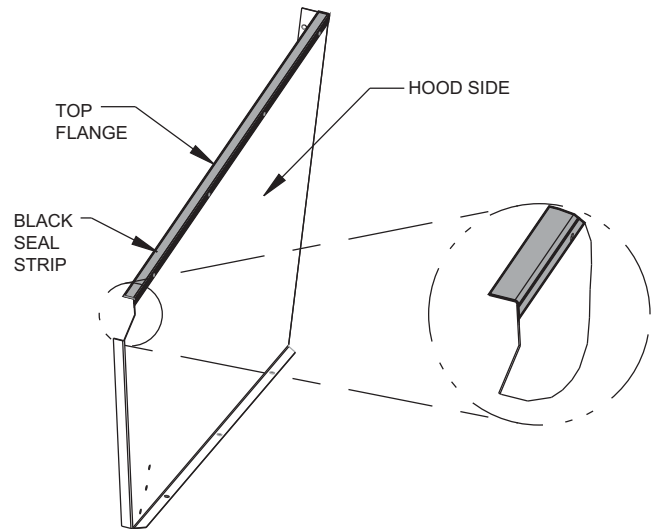

Fig. 19 — Adding Seal Strip to Top of Hood Sides
1. Apply black seal strip (provided) to outside top-edge of hood sides. Wrap seal strip over edge to cover top flange (2 hood sides per hood assembly). Make sure seal strip covers the screw holes. See Fig. 19 for example of the seal strip application.